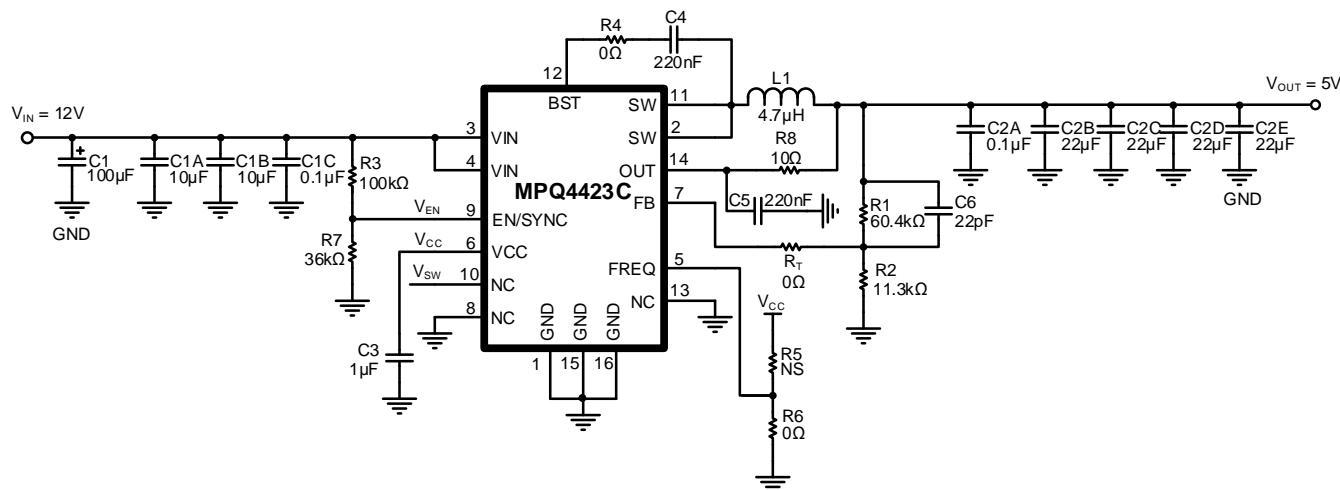

Figure 9: Typical Application Circuit ($V_{IN} = 12V$, $V_{OUT} = 5V$, $I_{OUT} = 6A$, $f_{SW} = 420kHz$ with FSS)
11) The recommended PCB layout is based on the typical application circuit with a 5V V_{OUT} , 6A I_{OUT} , and 420kHz f_{SW} with FSS (see Figure 9 on page 19).